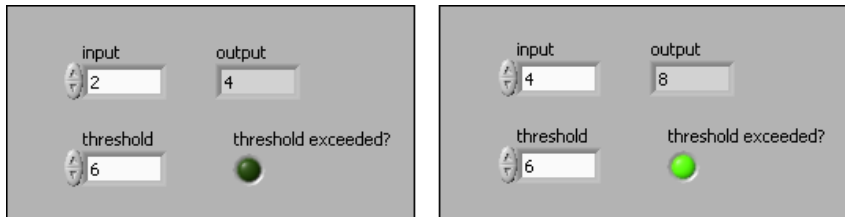

Figure 17. Running the VI
3. Enter different values in the **input** numeric control. In Figure 17, the front panel on the left does not exceed the threshold value. If you enter a number greater than the threshold, the **threshold exceeded?** LED lights as shown in the front panel on the right in Figure 17.